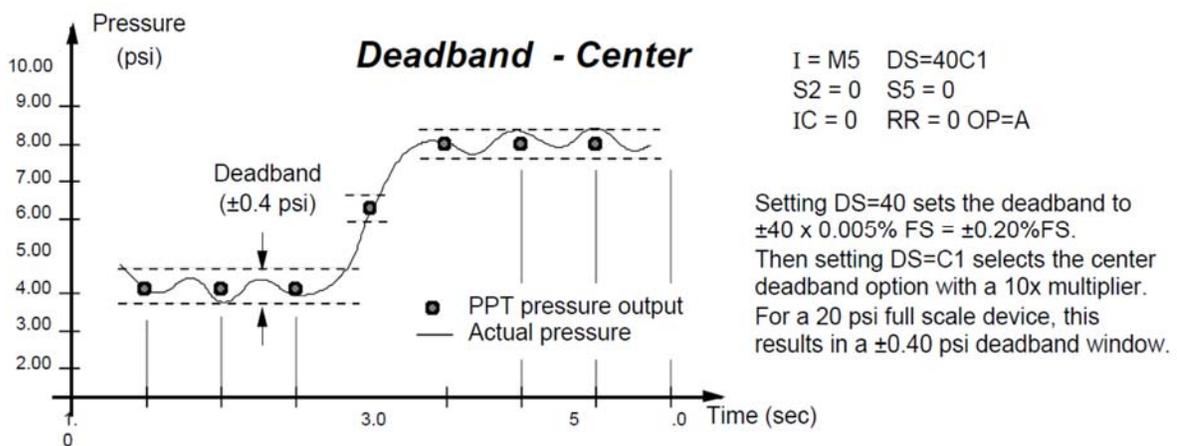

**Figure 4.12 – S5 Speed Shift Command Example**
**First**, the internal analog-to-digital converter integration time may be controlled over a range of 1 sample every 12 seconds up to 120 samples per second. This is controlled using the 'Integration' (I=) command. The integration time is used to control the A/D integration cycle that allow noisy pressure inputs to be filtered, or averaged, over a selected period of time. See Figures 4.12 and 4.13. The integration time can be set within a range of 1 to 120 samples/sec using the I=Rn form or a range of 100msec to 12 sec/sample using the I=Mn form. The values for 'n' range from 1 to 120 for both the rate (Rn) form and the millisecond (Mn) form.
Two PPTs can be used to sense pressure at one location and drive the analog pressure output at a remote location without a host processor. For example, a strip chart recorder or other analog input device, is being used to monitor a pressure point in a remote location. If the analog signal is run between locations, it will be subjected to electrical noise, line interference and connector electrical losses. The pressure signal would require shielding, single point ground connections and line filtering. A solution to eliminate the effects of line losses and noise sources would be to transmit the pressure information digitally to the strip chart recorder using two PPTs (see Figure 4.12).